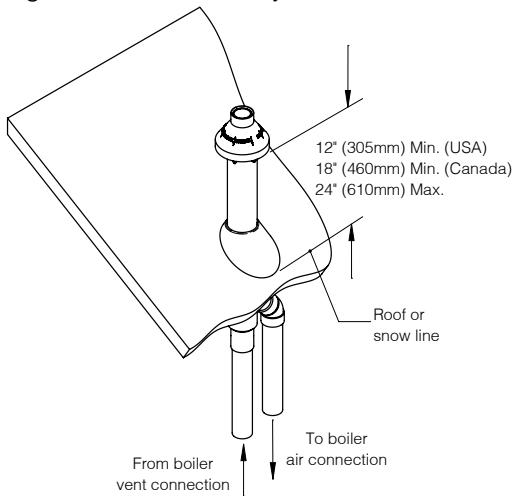

Figure 9-6: CPVC/PVC Concentric Terminal
1. Concentric vent terminals listed in Table 8-9 may be used to terminate air and vent outside building per Figure 9-6. Both air and vent pipes must attach to terminal kit.